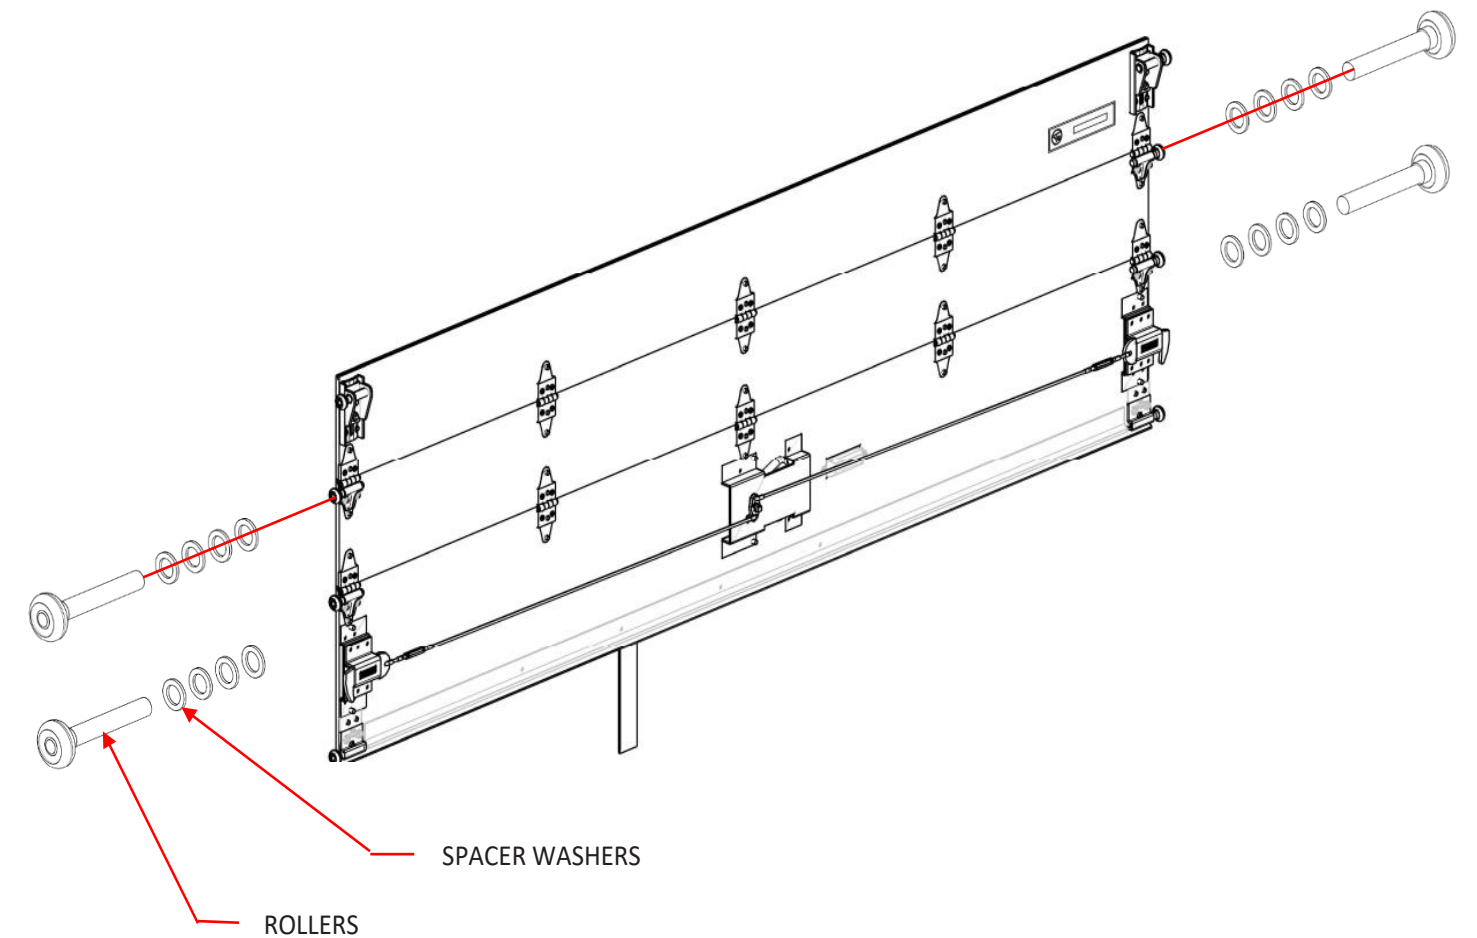

FIGURE 1
4. Are the spacer washers installed at the 1st Intermediate hinge and the last intermediate hinge on both sides? (**4 required per roller on side doors & 6 required per roller on rear door** by door design, to keep the door from contacting the track). (See Figure 1).